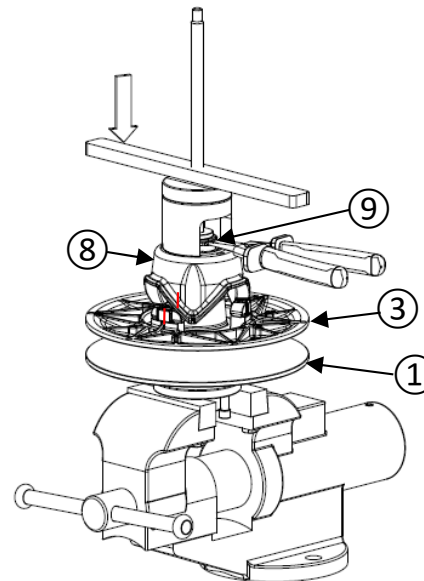

Figure 32
- Press down the cam ⑧ onto the fixed sheave ① shaft with the disassembly tool. Position the key ⑦ into the fixed sheave ① shaft groove (figure 32 and 33).
- Put the retaining ring ⑨ on the cam ⑧.
- Make sure that the fixed sheave ① is blocked in rotation, turn the sliding sheave ③ counter clockwise or clockwise to position the cam shoe ④ on the proper side of the cam sliding surface as it was before disassembly.
- Screw the disassembly tool bar until the cam ⑧ is low enough to install the external retaining ring ⑨.